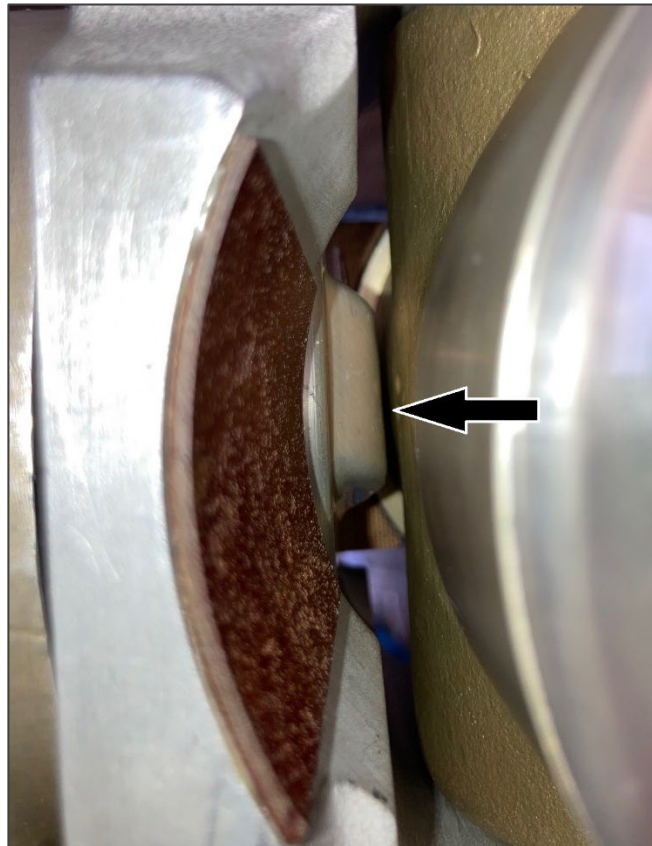

Figure 1. Universal Block Inspection Area (as indicated by the arrow)
- 6.1 Using a flashlight or similar light source, visually inspect the area between the retention assembly and the U-block for contact. Refer to Figure 1 for a closeup of the area to inspect.